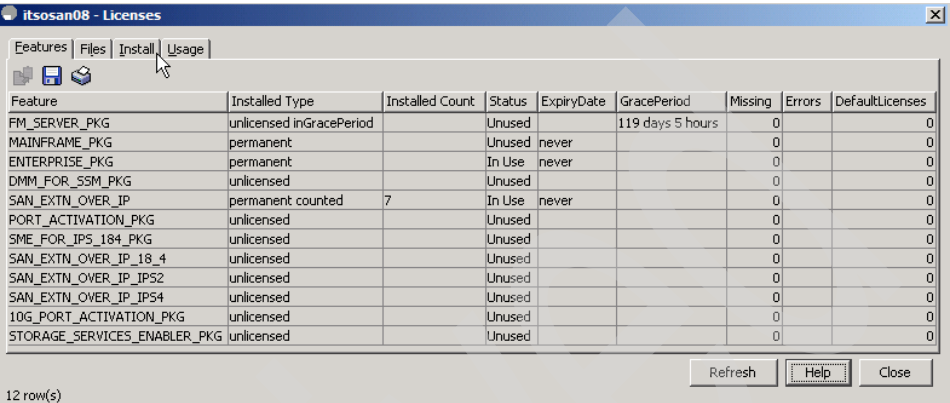

Figure 6-24 Selecting the Install panel
1. To install a license on the switch, select the **Install** tab, as shown in Figure 6-24.